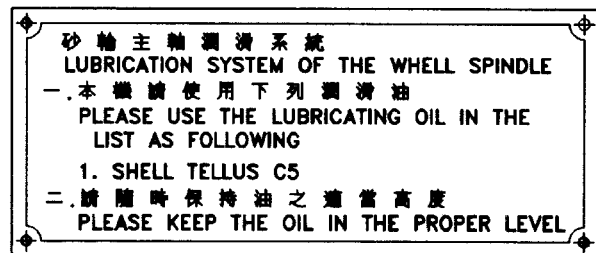

Fig 3.7.7
7. Wheel head spindle lubrication oil indicator (Fig 3.7.7). Located in position “G”